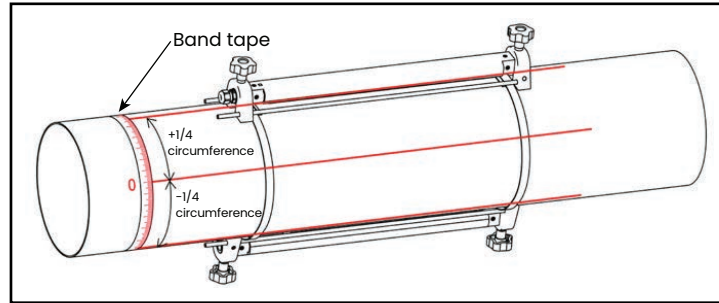

Figure 19: One traverse installation with two fixtures
3. Install two mounting straps on the pipe about 12 in. (30 cm) apart (see Figure 19 below).